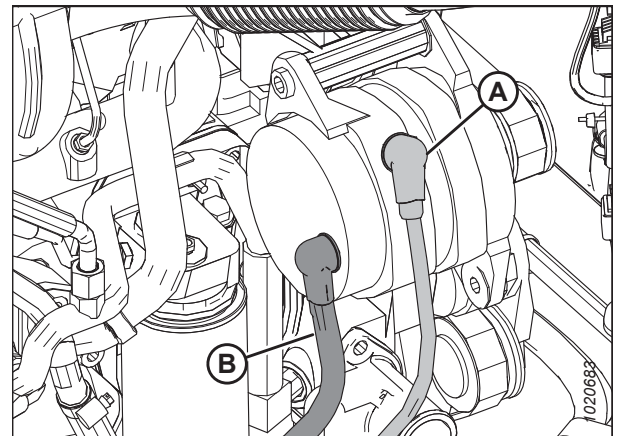

Figure 5.32: Alternator
- Do **NOT** short across battery or alternator terminals or allow battery positive (+) cable (B) or alternator wire to become grounded.
- If wires are disconnected from the alternator, refer to Figure 5.32, page 261 to ensure proper connection.